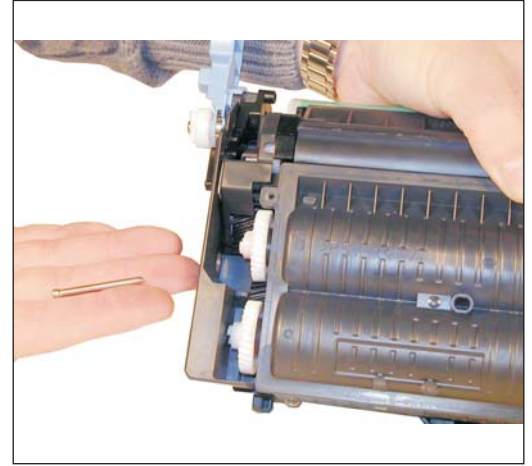

Figure 18
4) Remove the two pins. Note that the larger pin is from the gear side of the cartridge. See Figures 18 & 19